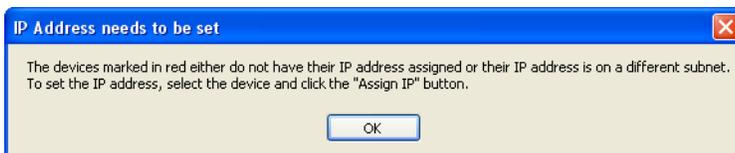

Figure 19: IP Address Needs to be Set
2. Click on  to locate the LAN-520. An “IP address needs to be set” information window may appear (see Figure 19).